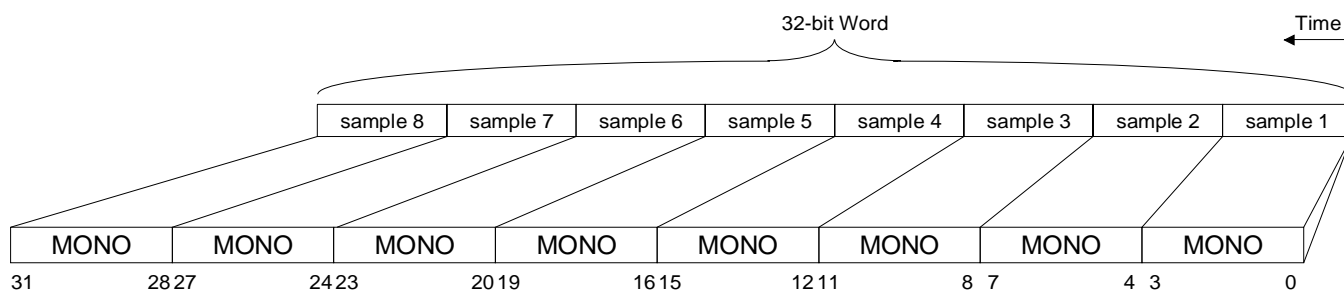

Figure 18. 4-bit Mono, ADPCM Audio Data
Additional data formats are supported in MODE 2 and 3: 4-bit ADPCM, and 16-bit signed Big Endian. See Figures 18 through 21. With the addition of the Big Endian and ADPCM audio data formats, the WSS Codec is compliant with the IMA recommendations for digital audio data formats (and sample frequencies).
on the specifics of the format, contact the IMA at (410) 626-1380. Figures 18 and 19 illustrate the ADPCM data flow.